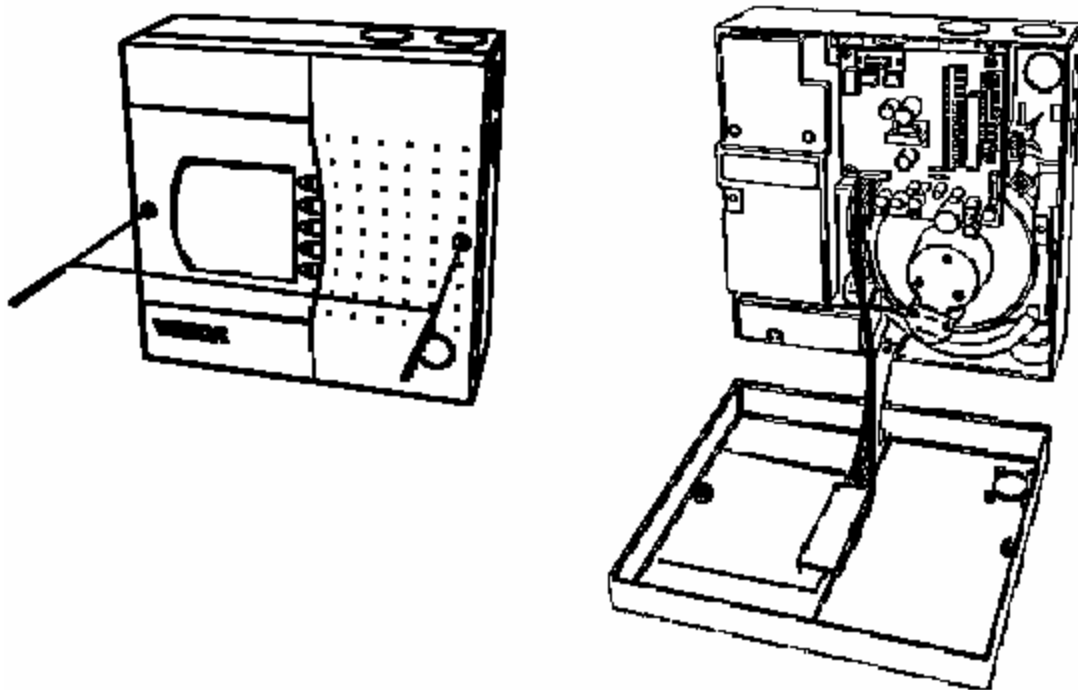

Figure 6-2: Opening and closing the detector
1. Open the front cover (Figure 6-2).
3. Undo the recessed Phillips head filter screw (B).
6. Tighten the filter screw (B).
11. Close the detector (Figure 6-2).